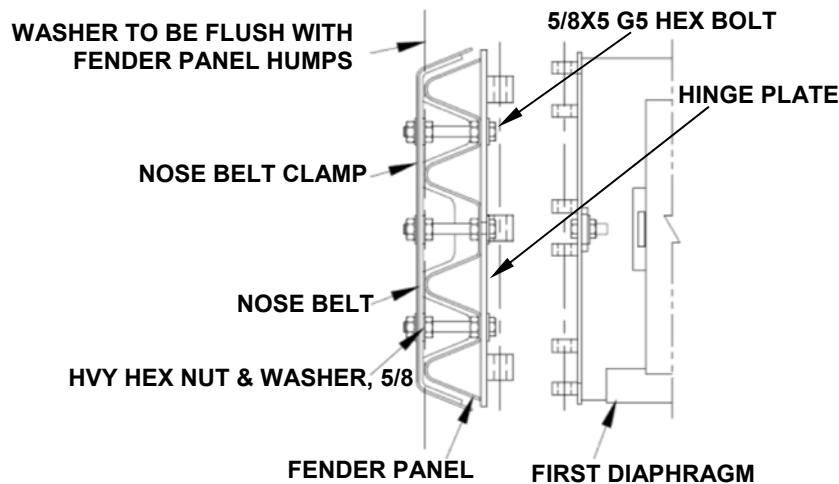

Figure 37
- Using 5/8X5" hex bolts, 5/8X1 3/4" flat washers, and 5/8" hex nuts, attach Fender Panels to Diaphragm Hinge Plates on three places per side (Figure 37 and 38). Tighten all fasteners.
- Thread additional 5/8" nuts onto the 5/8X5" hex bolts. Slide 5/8X1 3/4" flat washers onto bolts (three places per side). Adjust the nuts so the outside of the washers are even with the Fender Panel humps (Figure 37).